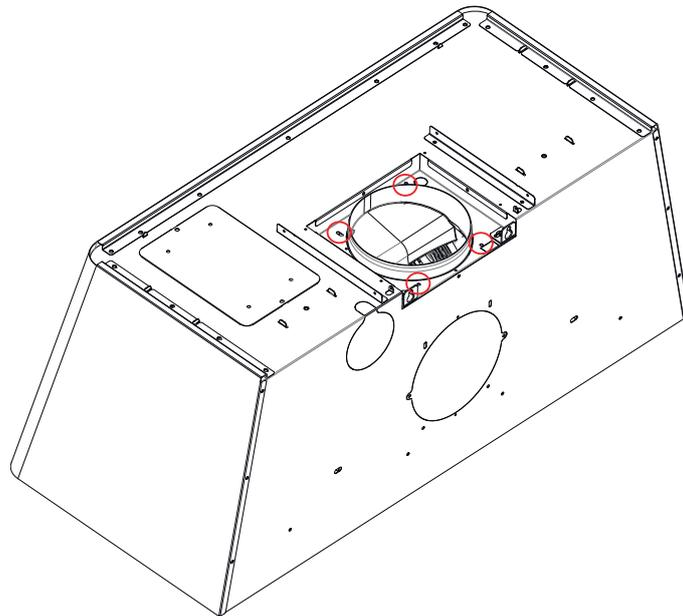

Fig. 16
1. ➤ Loosen the screws of the engine (Fig. 16).